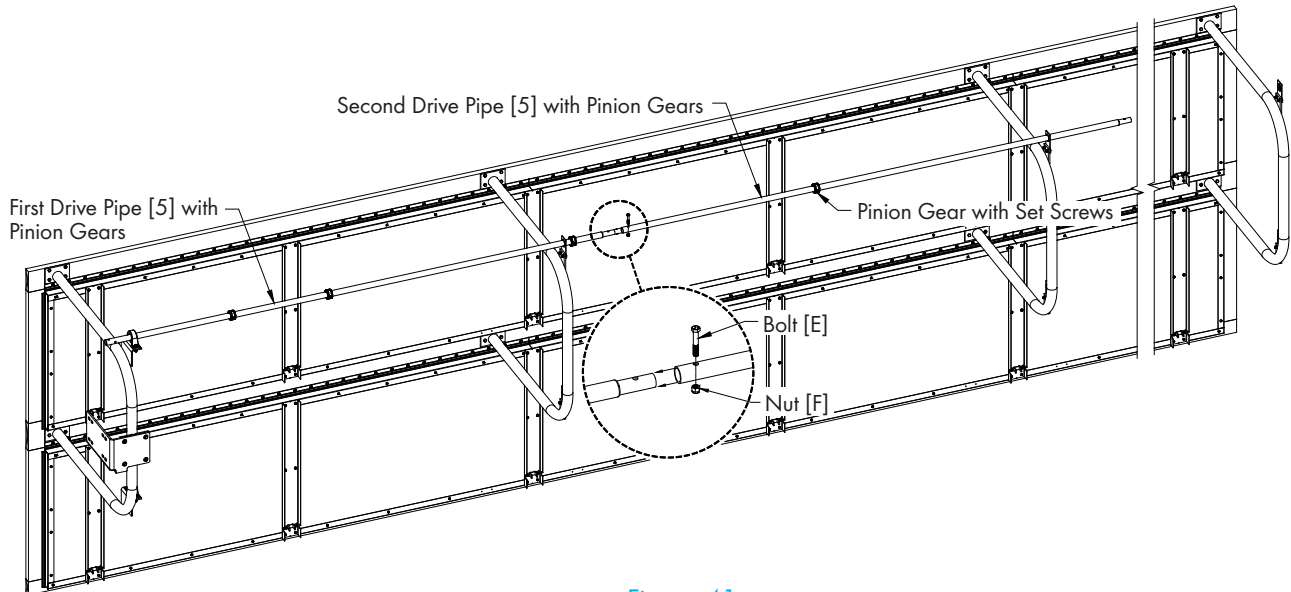

Figure 41
For next Drive Pipe [5] slide (2) Pinion Gears onto Pipe, then slide the swaged end of the Drive Pipe through the next Bronze Bushing in Guide Plate [19]. Then slide the opposite end onto the swaged end of the previous pipe. If needed slide one of the Pinion Gears past the joint in the pipes to align with the Door Support CHNL Bracket [6]. Align the pre-drilled holes and secure pipes together using Bolt [E] and Nut [F]. See Figure 41. Repeat this step for all but the last Drive Pipe [5].